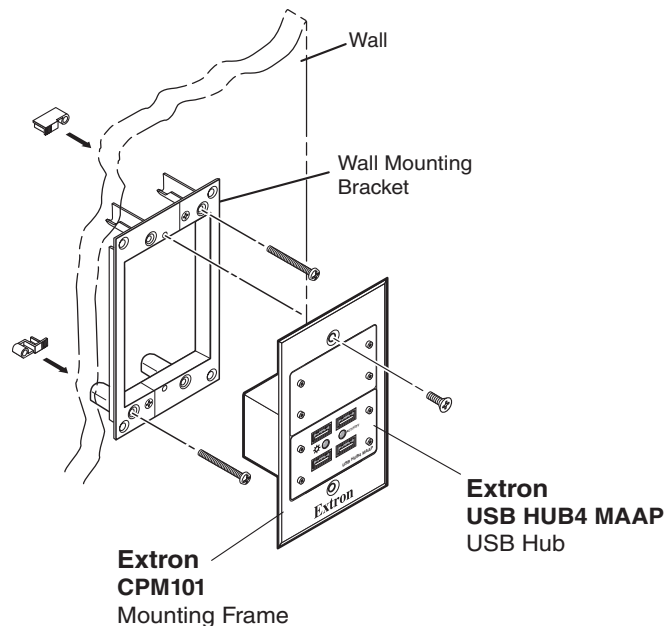

Figure 13. Mounting a USB HUB4 MAAP to a Mounting Bracket
3. Attach the AAP or MAAP mounting frame with the attached HUB4 to the mounting bracket using the two included mounting screws (see figure 13).